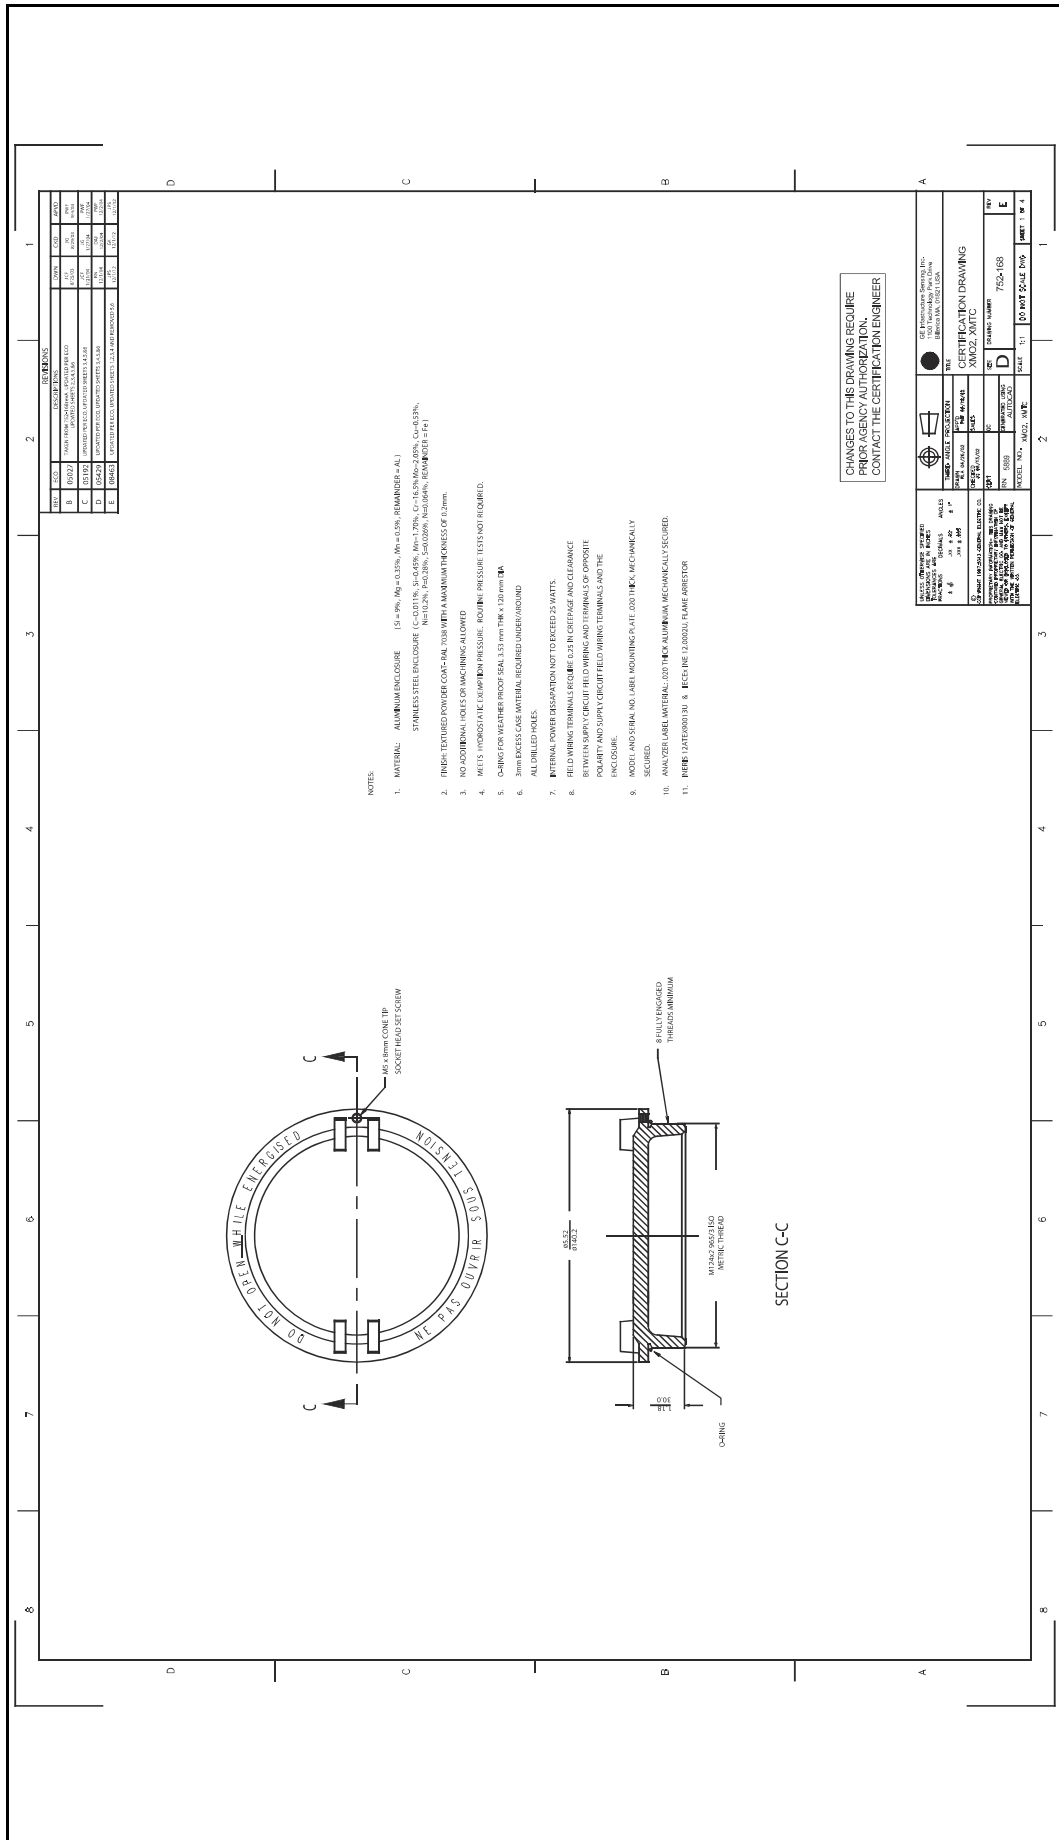

Figure 60: Certification drawing (ref. 752-168, Rev. E. SH)
- *Figure 60: Certification drawing (ref. 752-168, Rev. E, SH1) on page 44*